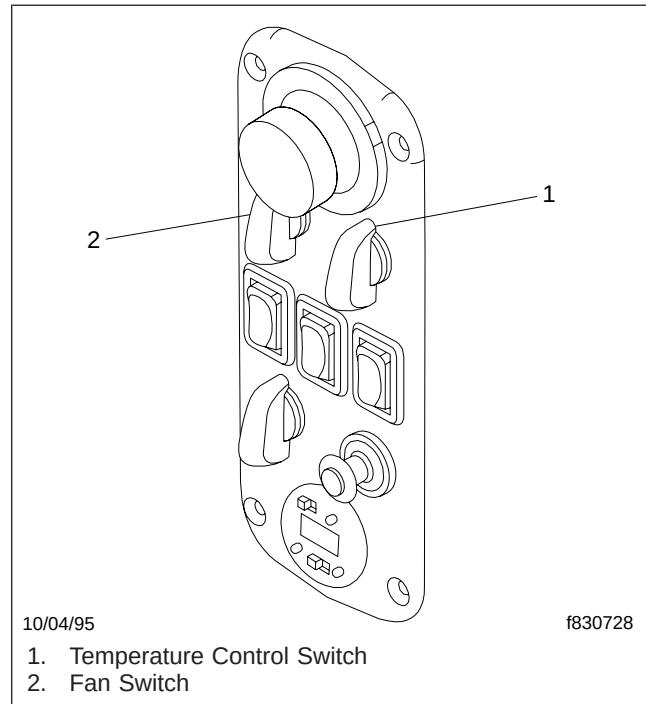

Fig. 4.8, Sleeper Climate Control Panel
The sleeper heater and air conditioner is installed in the right-side baggage compartment and uses the cab's refrigerant system for air conditioner operation. The sleeper heater and air conditioner is equipped with a separate evaporator coil, expansion valve, and fan. It is also equipped with its own heater core and water valve, independent of the cab heater. The sleeper climate control panel is mounted on the right rear wall or the rear overhead storage compartment. See Fig. 4.8.
2. Turn the temperature control switch all the way clockwise to heat. Turn the fan switch to position 3. See Fig. 4.8.
2. Turn the temperature control switch on the sleeper climate control panel all the way counterclockwise to cool. Turn the fan switch to position 3. See Fig. 4.8.